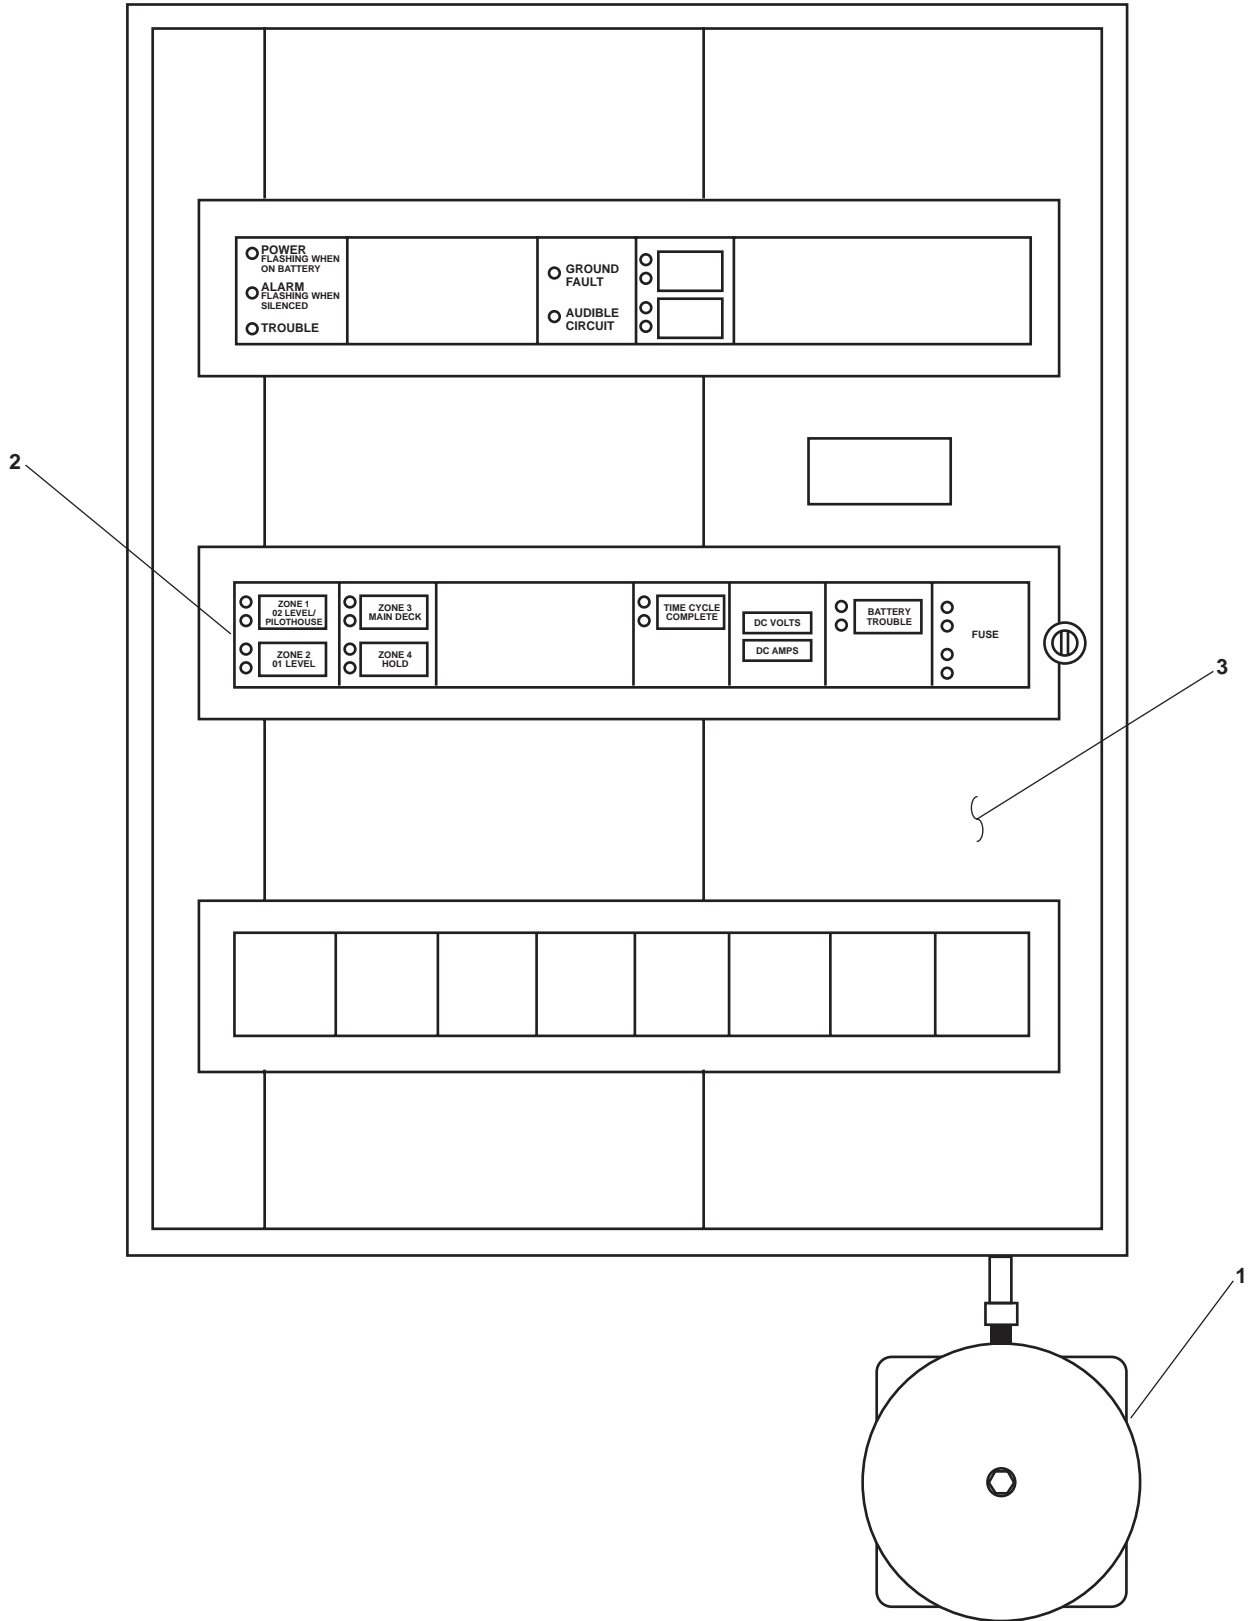
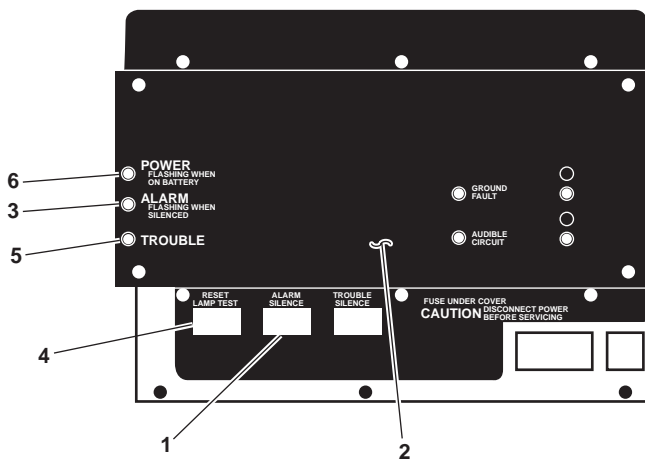

Figure 2. Fire and Smoke Detection Panel and Alarm Bell
Figure 4. CP-35 Control Unit
- b. The audible alarm bell (figure 2, item 1) sounds in the Enclosed Operating Station (EOS) and the proper zone LED (figure 2, item 2) illuminates on the fire detection panel (figure 2, item 3).
3. Press the ALARM SILENCE switch (figure 4, item 1) on the CP-35 CONTROL UNIT (figure 4, item 2) and observe the following:
- a. The audible alarm bell (figure 2, item 1) has silenced in the EOS.
- c. The ALARM FLASHING WHEN SILENCED LED (figure 4, item 3) on the CP-35 CONTROL UNIT (figure 4, item 2) is flashing.
4. Reset the fire detection control panel (figure 2, item 3) by pressing the RESET LAMP TEST switch (figure 4, item 4) on the CP-35 CONTROL UNIT (figure 4, item 2) momentarily and observe the following:
- a. The audible alarm bell (figure 2, item 1) in the EOS sounds and all zone LEDs (figure 2, item 2) illuminate on the fire detection panel (figure 2, item 3).
- c. The TROUBLE LED (figure 4, item 5) on the CP-35 CONTROL UNIT (figure 4, item 2) illuminates.
- d. All audible alarms (figures 2 and 3 item 1) silence and all LEDs (figures 2 and 3, item 2 and figure 4, items 3 and 5) extinguish.
- e. The POWER FLASHING WHEN ON BATTERY LED (figure 4, item 6) is illuminated and not flashing.
- f. All zone LEDs (figure 2, item 2) on the fire detection panel (figure 2, item 3) are illuminated with the green LED.
- a. The audible alarm bell (figure 2, item 1) sounds in the Enclosed Operating Station (EOS) and the proper zone LED (figure 2, item 2) illuminates on the fire detection panel (figure 2, item 3).
2. Press the ALARM SILENCE switch (figure 4, item 1) on the CP-35 CONTROL UNIT (figure 4, item 2) and observe the following:
- a. The audible alarm bell (figure 2, item 1) has silenced in EOS
- c. The ALARM FLASHING WHEN SILENCED LED (figure 4, item 3) on the CP-35 CONTROL UNIT (figure 4, item 2) is flashing
3. Reset the fire detection panel (figure 2, item 3) by pressing the RESET LAMP TEST switch (figure 4, item 4) on the CP-35 CONTROL UNIT (figure 4, item 2) momentarily and observe the following:
- a. The audible alarm bell (figure 2, item 1) in the EOS sounds and all zone LEDs (figure 2, item 2) illuminate on the fire detection panel (figure 2, item 3)
- c. The TROUBLE LED (figure 4, item 5) on the CP-35 CONTROL UNIT (figure 4, item 2) illuminates
- d. All audible alarms (figures 2 and 3, item 1) silence and all LEDs (figures 2 and 3, item 2 and figure 4, items 3 and 5) extinguish
- e. The POWER FLASHING WHEN ON BATTERY LED (figure 4, item 6) is illuminated and not flashing
- f. All zone LEDs (figure 2, item 2) on the fire detection panel (figure 2, item 3) are illuminated with the green LED
4. Reset the fire detection panel (figure 2, item 3) by momentarily pressing the RESET LAMP TEST switch (figure 4, item 4) on the CP-35 CONTROL UNIT (figure 4, item 2) and observe the following:
- d. All audible alarms (figures 2 and 3, item 1) silence and all LEDs (figures 2 and 3, item 2 and figure 4, items 3 and 5) extinguish.